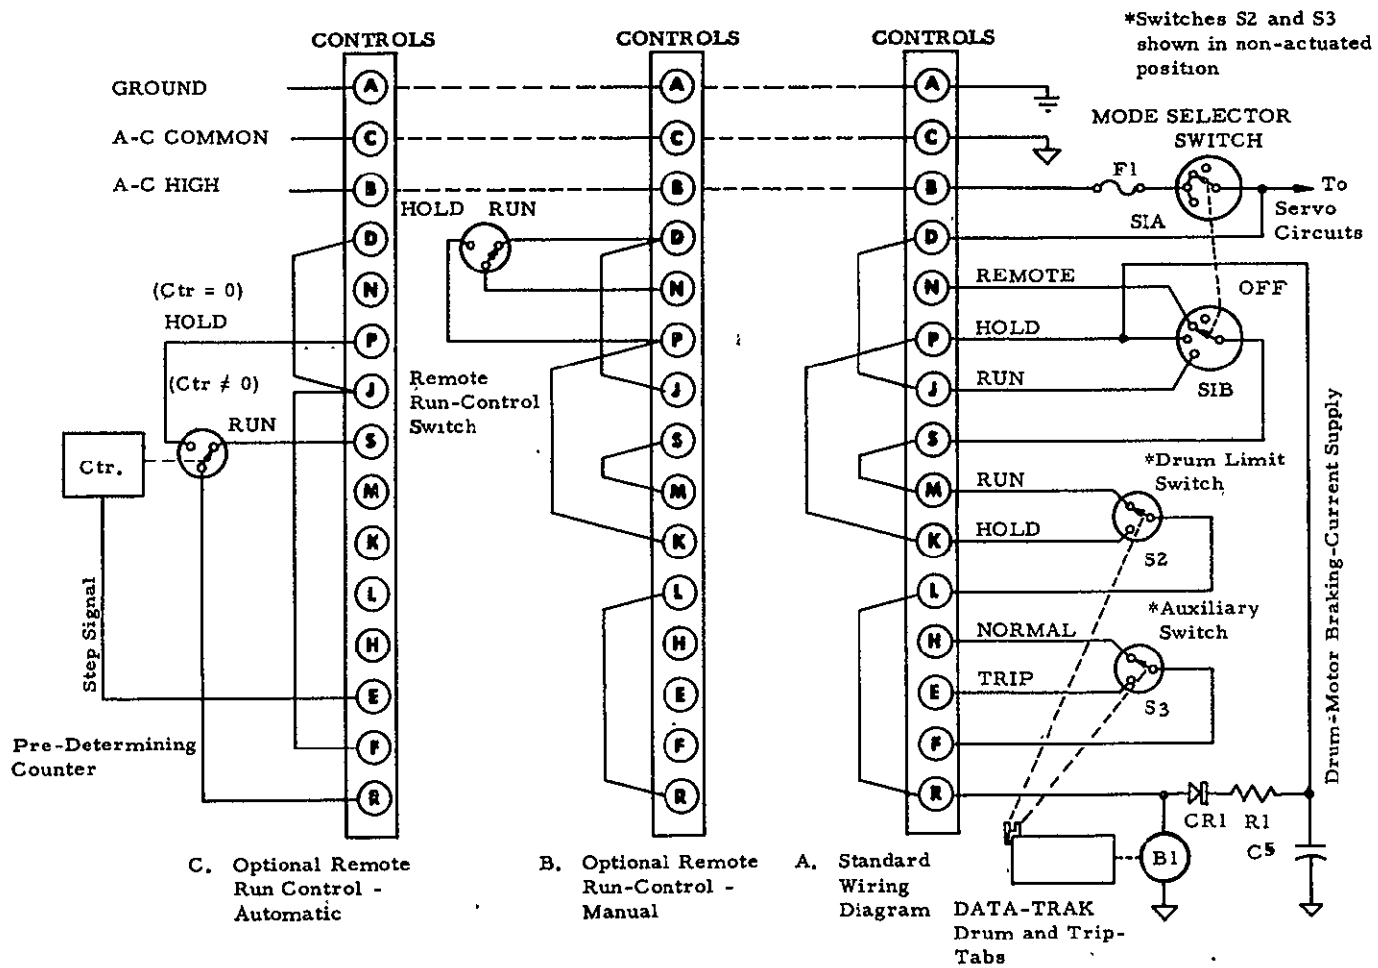

Figure 5-1 Model 5110 DATA-TRAK Standard/Special Run Control Wiring Diagram
Standard wiring of the terminals and two alternate wiring methods are shown in Figure 5-1 and described under the following headings.
For clarity, the terminals are not shown in their normal sequential order in Figure 5-1. Also, the internal DATA-TRAK wiring and components are shown but once since it is identical in each of the two additional examples.
Example B in Figure 5-1 illustrates the manner in which an external remote control switch may be connected to the DATA-TRAK. No changes in the standard wiring of the terminals are required for this application; just connect three wires from the external switch to the terminals as shown in the figure. The remote control switch will be enabled to initiate a RUN or HOLD only when the Mode Selector is switched to REMOTE; either drum motor AC energizing current or DC braking current will then be allowed to pass through the remote switch, through the REMOTE contacts of the Mode Selector and on through the Drum Limit switch to the drum drive motor.
For applications requiring continuous drum rotation for a predetermined number of program cycles, the run control circuits of the DATA-TRAK may be connected to an external predetermined counter as shown in Example C in Figure 5-1.
The examples shown in Figure 5-1 are not intended to represent all possible external connections for special functions, but are merely presented as a basis for a clear understanding of the circuitry involved. A number of additional optional applications of the run control circuitry are listed below and on the following page.
- 4) If two Auxiliary switches are required for an operation in unlimited or predetermined program cycle applications, the Drum Limit switch may be used along with the standard Auxiliary switch for this purpose. Three jumpers must be removed from the entrance board (from "S" to "M", from "P" to "K" and from "L" to "R") as they are in Example C of Figure 5-1. External wiring may then be connected to terminals "M", "L" and "K" in a manner appropriate for the particular function desired. If this is done, a jumper must be installed between terminals "S" and "R" to enable the drum drive circuits.